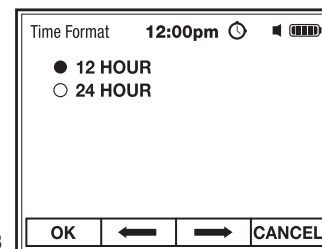

Fig. 28
2. Use the **F2** $\Leftarrow$ and **F3** $\Rightarrow$ soft keys to select a 12 hour or 24 hour clock (Fig. 28).